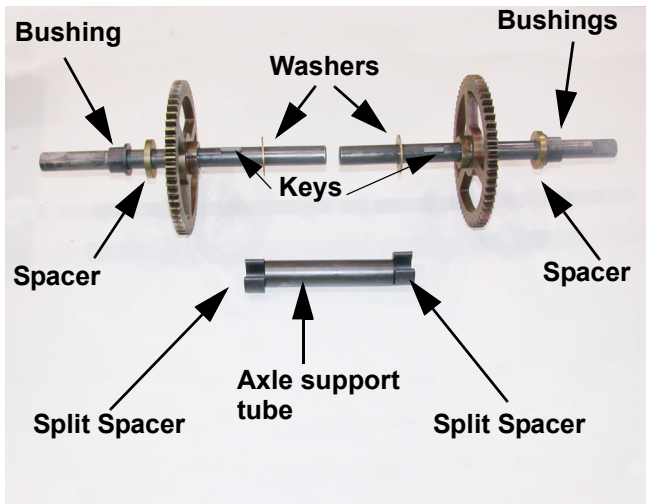

Figure 9.1
- 9.1. The steerable units are unique in the way they propel. While the narrow axle shaft the steerable snow throwers use a split axle to provide the ability to drive either or both ways. See Figure 9.1.